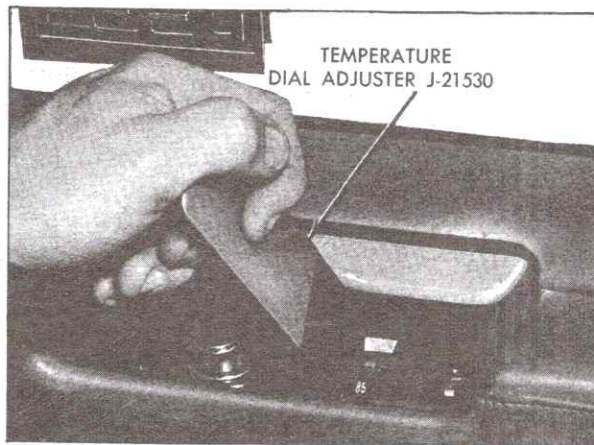

Fig. 1-77 Adjusting Rear Temperature Dial (697)
1. Insert Temperature Dial Adjuster, J-21530, between temperature dial and casting, Fig. 1-77.